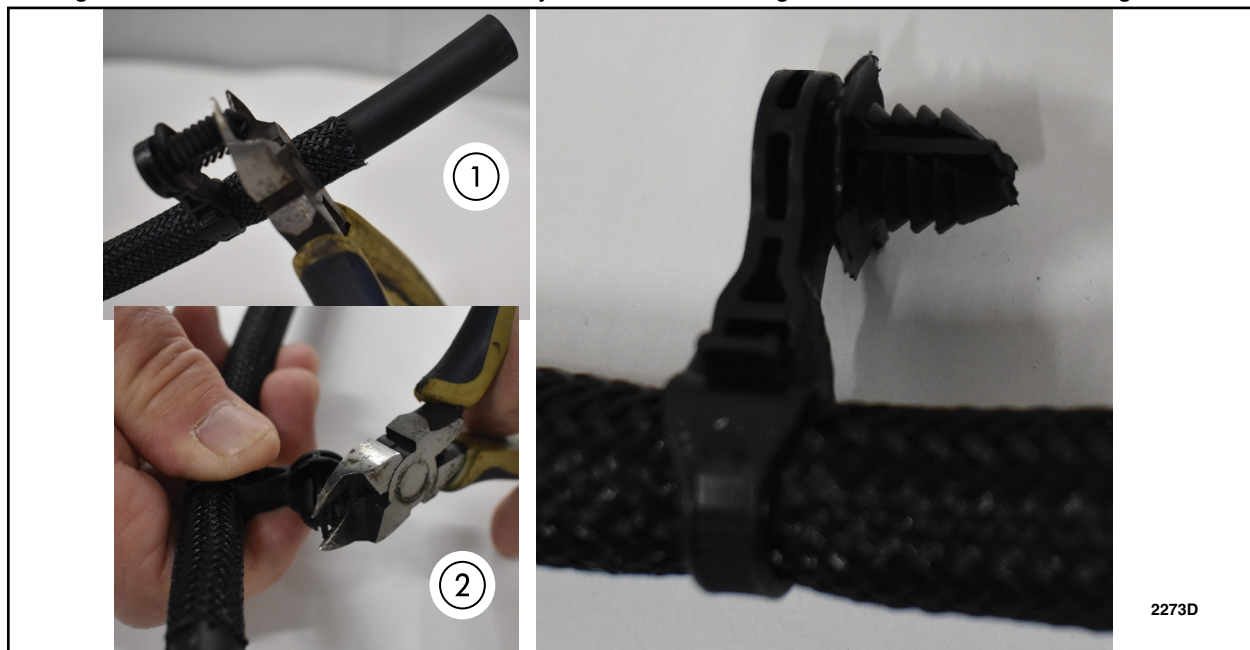

FIGURE 4
7. Cut the tip from fir tree fastener at the end of the tube. Trim the sides of the top 2 barbs at a 45-degree angle on the fir tree fastener to more easily allow fitment through the subframe hole. See Figure 4.